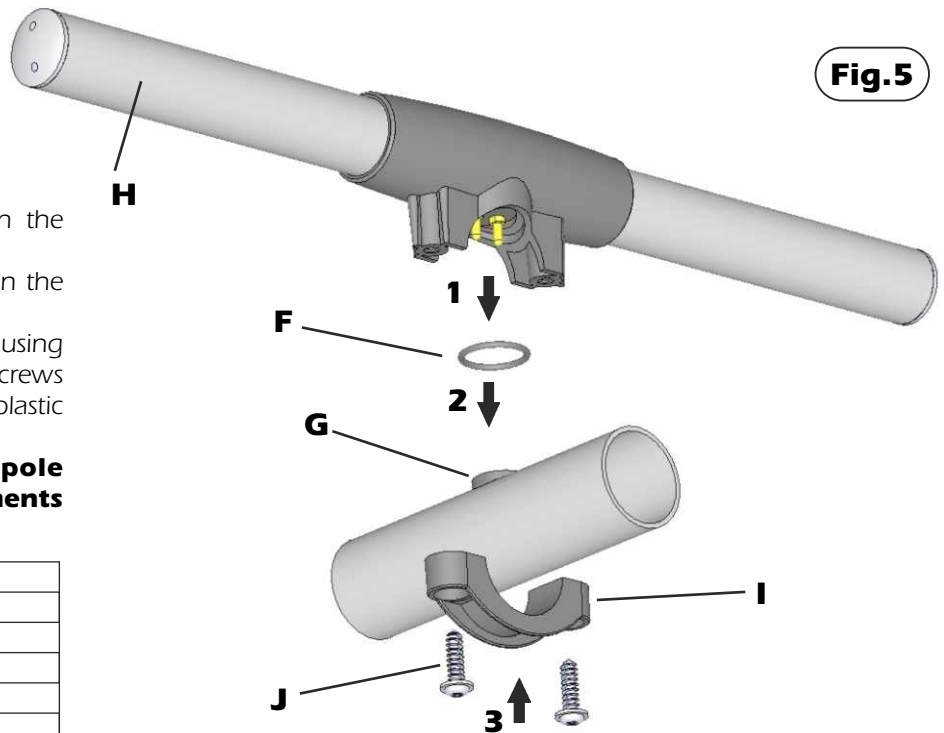

Fig.5
- 1) Place the O-ring gasket **F** on the dipole connector **G**. (See Fig.5)